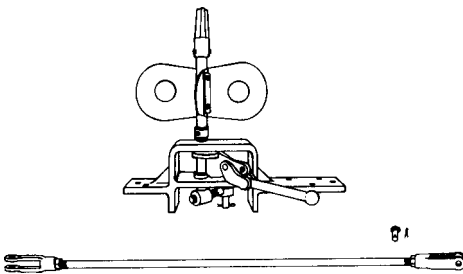

Figure 21 - Two Tie Operating Stand & Parts
- 8.1 Two-Tie Operating Stand & Parts Figure 21 shows the operating stand. It is made to throw any Hayes Sliding Derail. Operating stands cannot be used with Hinge Derails. All Operating Stands can be padlocked.